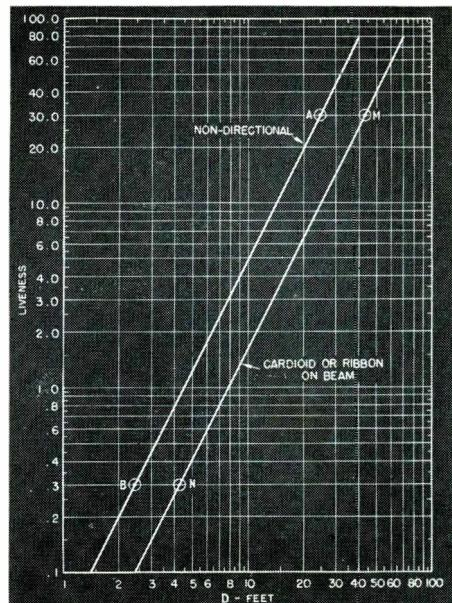

Figure 5 — Typical chart used for positioning General and Accentuation Microphones in active studios.
Where studios are in active use, a set of curves as shown in Figure 5 may be prepared. To aid you in preparing such a chart the following typical case is worked out in detail.
Plot these two points (A and B of Figure 5) and connect them with a straight line. From this chart the distance D corresponding to any desired value of liveness may be obtained for a nondirectional microphone.
To obtain the plot for bidirectional or cardioid microphones proceed in a similar manner letting  $G_p = 3$ . Then we obtain the points M and N, Figure 5. Connect these with a straight line.
4. Determine the distance D from Equation (2) or from the studio chart typified by Figure 5. If you are using this microphone for accentuation of the string section or any other group of artists, D represents the distance from the microphone to the nearest artist in that group.